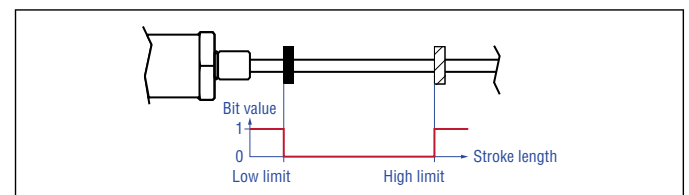

Fig. 86: Switching points for R-Series V PROFINET with linear profile
- **Sensor status 2:** This module indicates when a high limit is exceeded or a low limit is not reached. The switching points mark the beginning and the end of a work area (Fig. 86). According to Fig. 87, the status of the switching points is displayed via bits 0 and 1 of this module. Reading these status values is described on page 62.